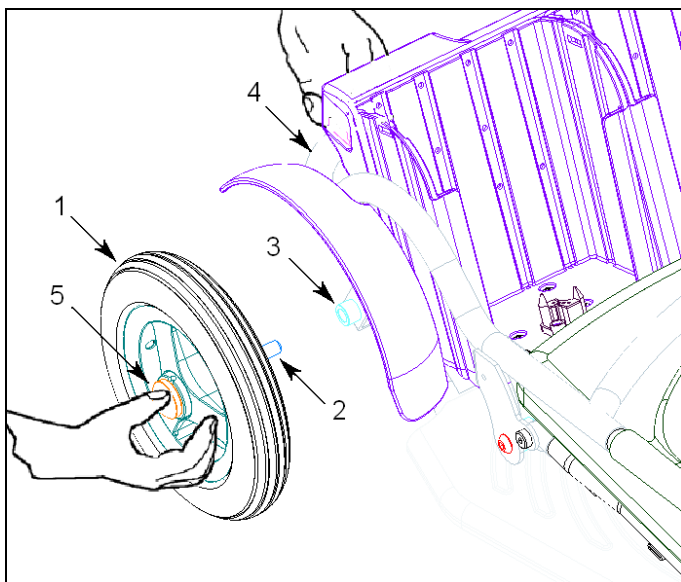

figure 17
- In case of need to remove the wheels from the frame to earn some more volume reduction of the Caddy, do it in opposite order than installing them. See **figure 17** and §2.2 .